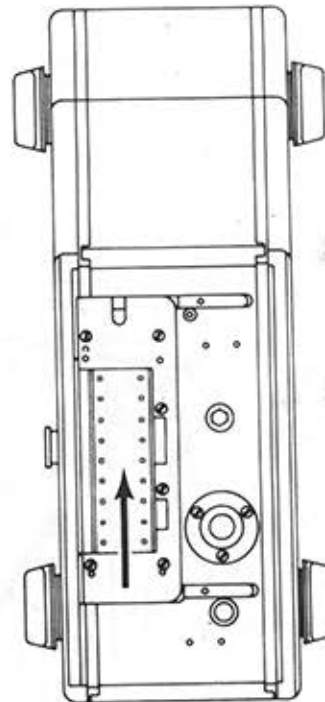

Figure 2-5. Film Pushed Up Properly in Gate
16. Push the film all the way up in the gate (figure 2-5).
19. Verify film is pushed up in gate (figure 2-5) each time magazine is inserted.